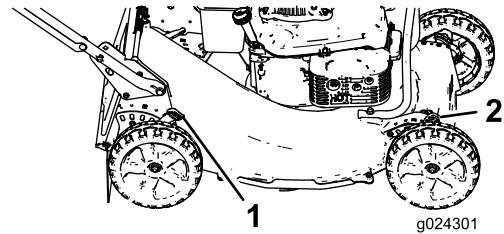

Figure 11
1. Pull the cutting-height lever toward the wheel (Figure 11) and move the lever to the desired setting.